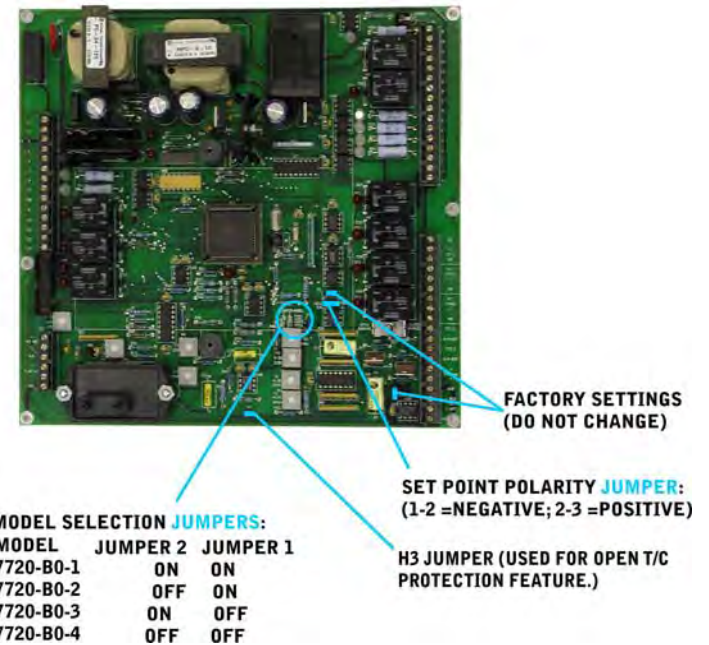

Figure 2. Configuration Jumper Locations
8. On Chart 1, Section 2, record the position of each jumper. (See Figure 2 for jumper locations).